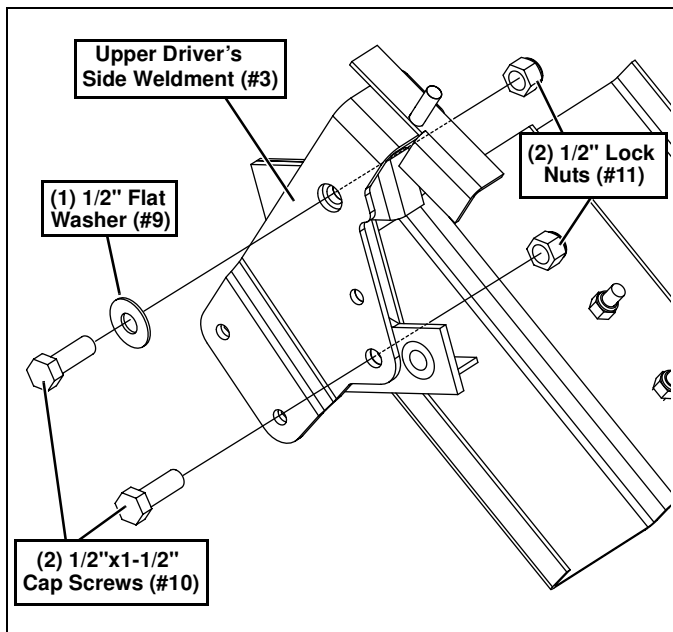

Figure 3
- Place (1) 1/2" Flat Washer (#9) over only the top side hole in the Upper Driver's Side Weldment (#3). Insert (2) 1/2"-13 X 1 1/2" Cap Screws (#10) into both side holes of the Upper Driver's Side Weldment (#3), and secure with (2) 1/2"-13 Lock Nuts (#11). (See Figure 3.)